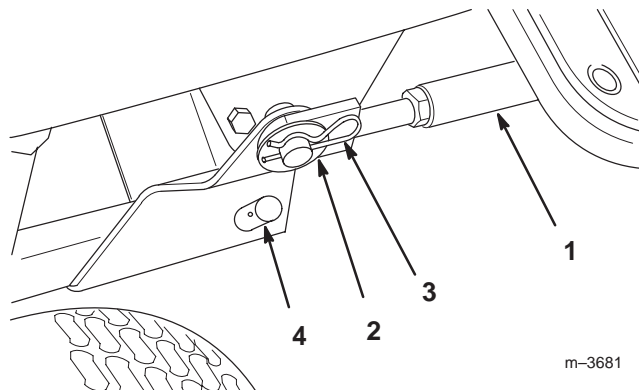
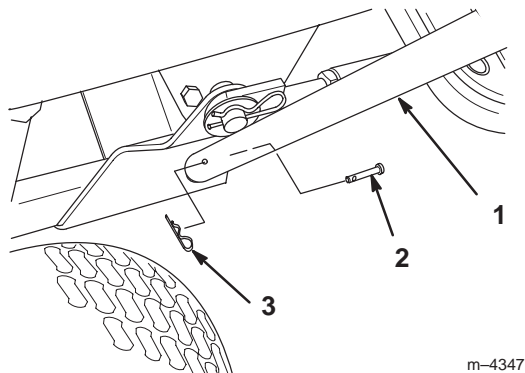

Figure 22
Figure 23
14. Secure the other ends of the support braces to the frame rods protruding from the mid Attach-A-Matic™ hitch with a 15/16" (24 mm) washer and a large hairpin cotter (Fig. 22). You may need to turn the adjuster of each brace before the holes in the adjuster align with the frame rod.
- 15.** Slide the crank support onto the mounting post on the left-hand side of the tractor (Fig. 22). Secure it in position with a locking pin and small hairpin cotter (Fig. 23).